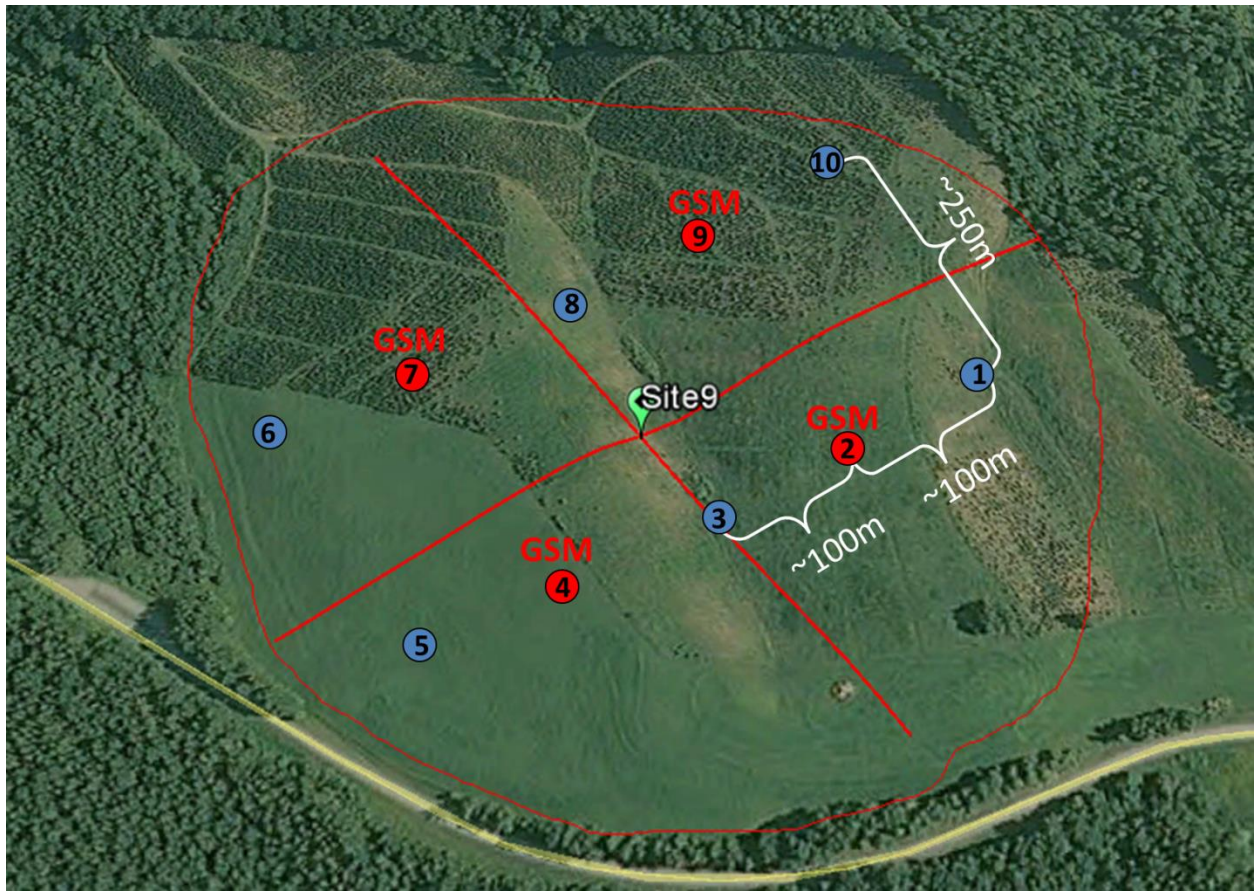

Figure 6. Schematic of layout of samples in a watershed site.
- At specific points shown in Figure 6 (**four** per site) collect a gravimetric soil moisture (GSM) sample for 0-6 cm following the procedures described using the scoop/spatula, enter the letter/numbers labeled on cans on datasheet.